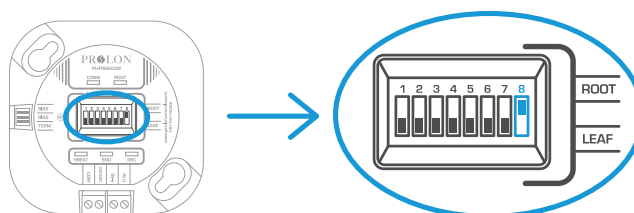

Figure 2
- 3c) These dipswitches are not to be mistaken with the controllers' Modbus address, they are for branch ID identification only. (Figure 2)
- 4a) The "ROOT"/"LEAF" function is activated using dipswitch number #8. (Figure 2)